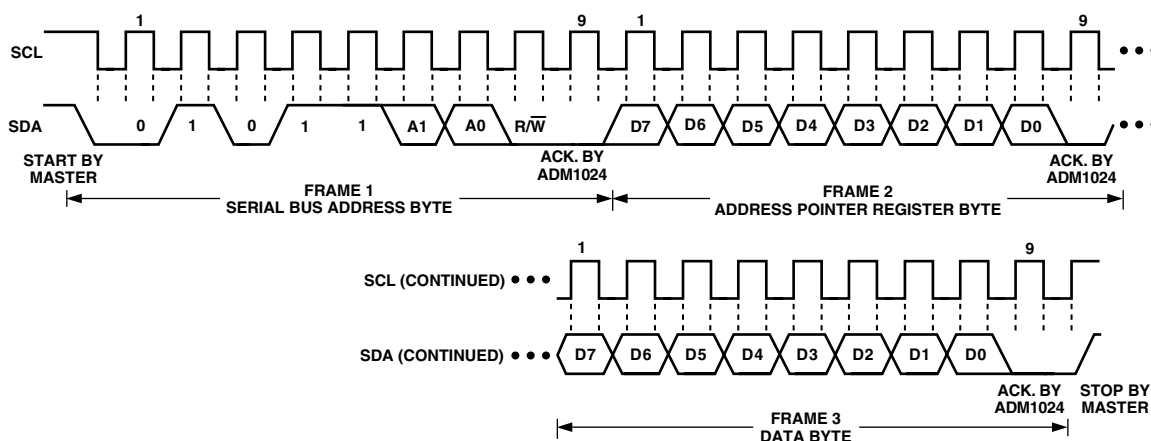

Figure 9a. Writing a Register Address to the Address Pointer Register, then Writing Data to the Selected Register
To write data to one of the device data registers or read data from it, the Address Pointer Register must be set so that the correct data register is addressed, then data can be written into that register or read from it. The first byte of a write operation always contains an address that is stored in the Address Pointer Register. If data is to be written to the device, the write operation contains a second data byte that is written to the register selected by the address pointer register. This is illustrated in Figure 9a. The device address is sent over the bus followed by  $R/\overline{W}$  set to 0. This is followed by two data bytes. The first data byte is the address of the internal data register to be written to, which is stored in the Address Pointer Register. The second data byte is the data to be written to the internal data register.
2. In Figures 9a to 9c, the serial bus address is shown as the default value 01011(A1)(A0), where A1 and A0 are set by the three-state ADD pin.